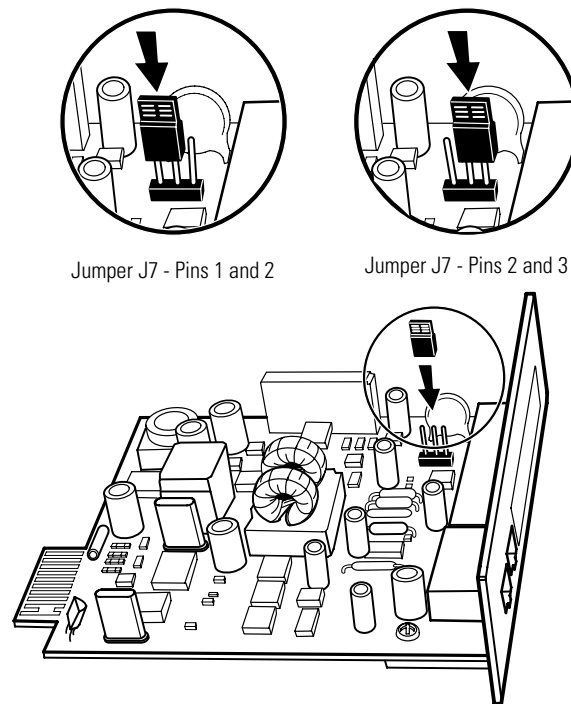

Figure 32. Setting the CAN Bridge Card Jumper J7 (Side View)
6. Set the jumper pins on the Powerware Hot Sync CAN Bridge Card according to the parallel configuration (see Figure 32):